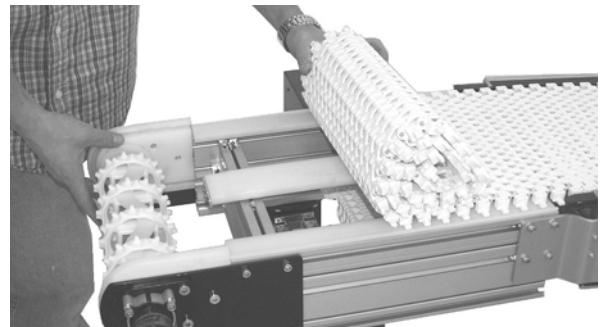

Figure 12
1. Position the belt on the conveyor frame (Figure 12).